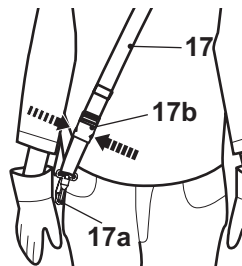

Fig. 8
5. In case of emergency hold the soft grip (9) of the front pole (8) with the left hand, and use the right hand to press two clips of the quick release (17b). The product together with the securing clip (17a) will be released automatically from the body because of the weight of the product (Fig. 8).